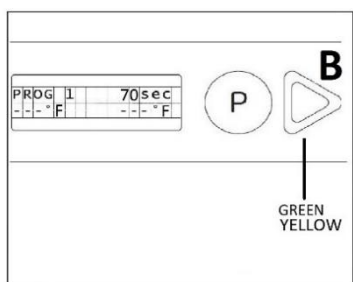

Fig.15
- 6- Wait end of the cycle until countdown is finished. Button B is yellow when the machine is heating and green when is ready to start another cycle. (Fig.15)